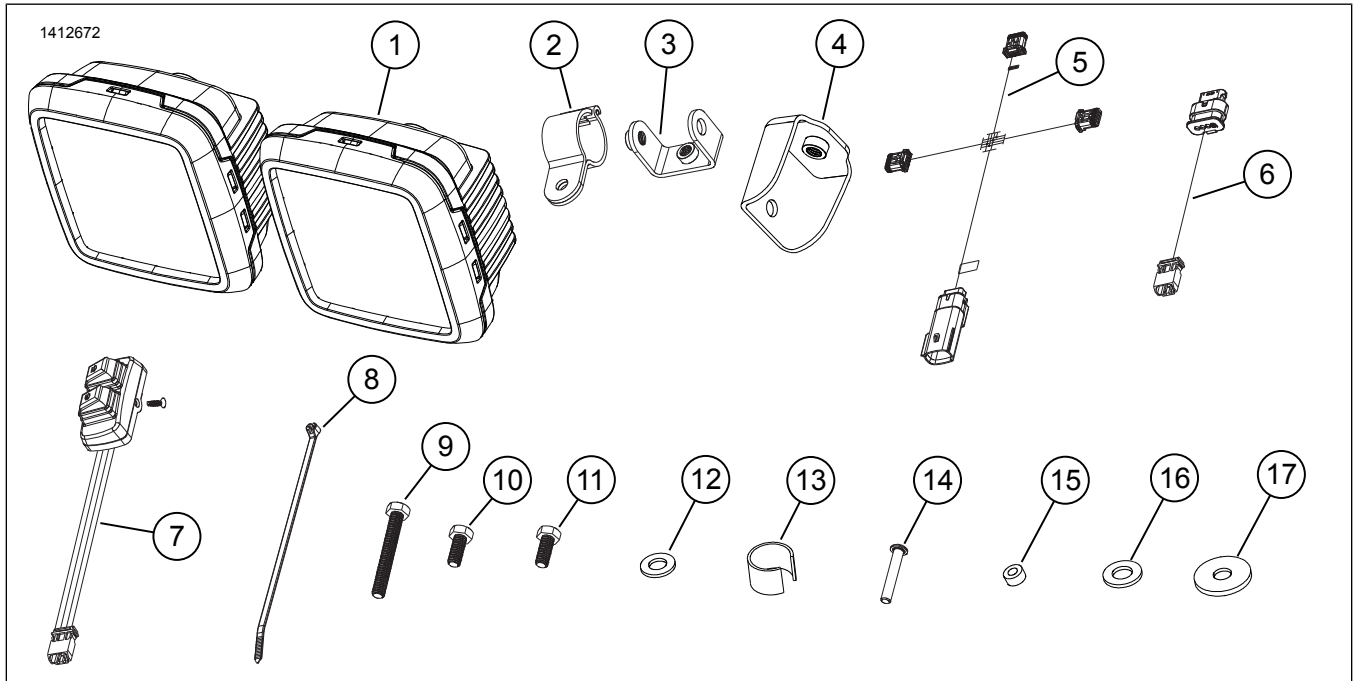

Figure 1. Kit Contents: Forward Auxiliary Lamp Components
1. See Figure 1. Disassemble switch pack (7).
- a. **Kits 68000341 and 68000342:** Install spacers (15) between switch pack base and clutch clamp. See Figure 1.
4. Loosely install screws (1).
6. Tighten screws (1).